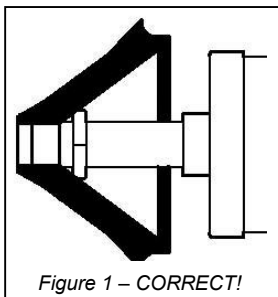
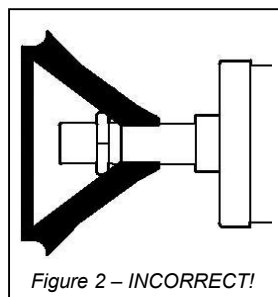

Figure 1 – CORRECT!
Figure 2 – INCORRECT!
3. Use the Lock Nut to hold the cone in place as shown in figure 1, never as shown in figure 3.
1. Thread the 4" Rubber Cone onto the spindle with the point of the cone facing downward as shown in figure 1, not with the point facing the cylinder as shown in figure 2.